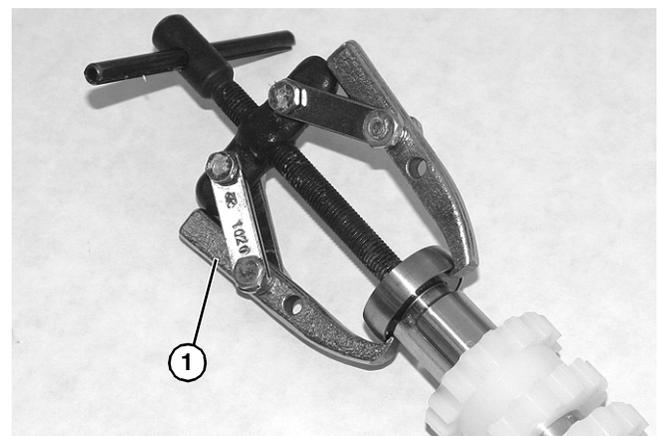

Figure 40
3. Use bearing removal tool (807-1078) (**Figure 40, item 1**) to remove bearings from drive pulley.